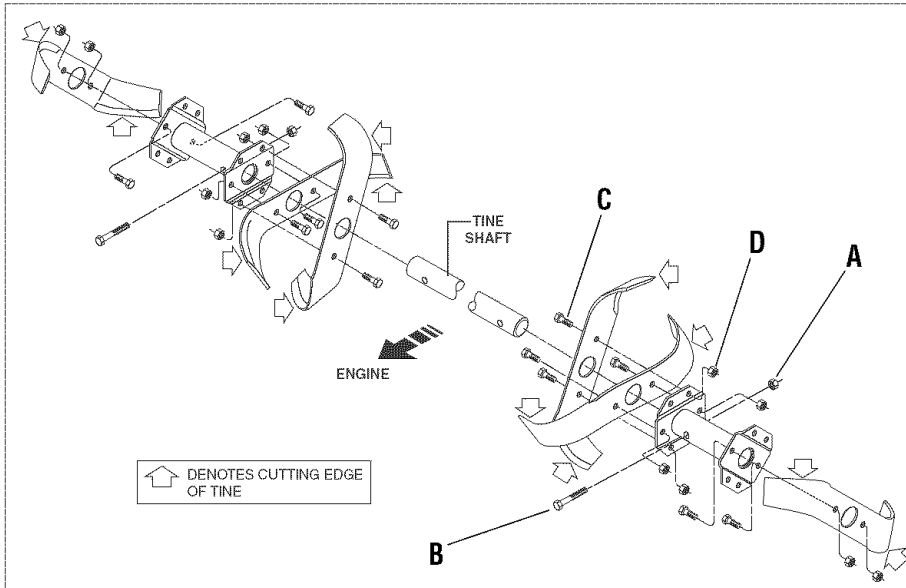

Figure 5-7: Complete tine assemblies— holders, tines and hardware.
1. Use a 9/16" socket, 6" extension, a ratchet, and a 9/16" box wrench to loosen the nut (A, Figure 5-7) and bolt (B) that secure the tine holder to the tine shaft.
WARNING: This is a CRT (counter-rotating tine) tiller and its tines must be mounted in the direction shown in Figure 5-7. Failure to comply could result in personal injury or property damage.